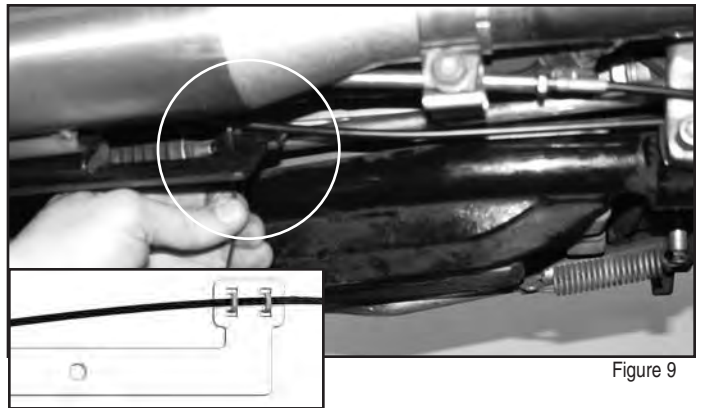

Figure 9
7. Secure Actuator Cable to Cable Hanger with two Cable Ties. **Figure 9 and 10.**